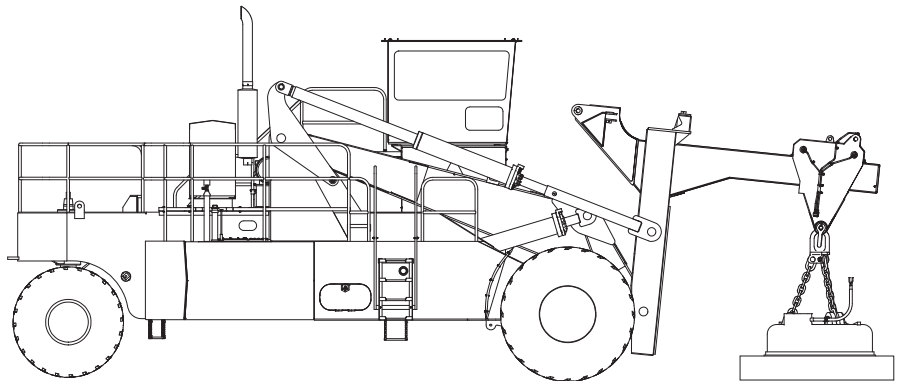
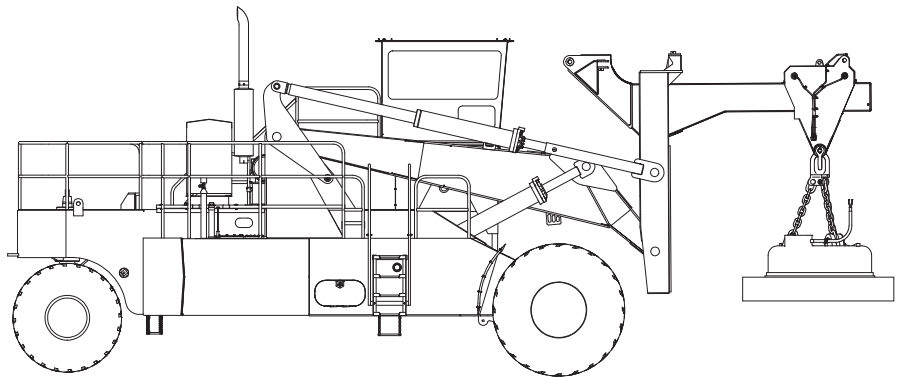

Fig. 5-5
Fig. 5-6
5. Use a combination of the hoist, tilt, swing and trolley controls on the joystick (see page 3-4) to gently lower the magnet until it is resting directly on the load to be lifted, directly above the load's center of gravity. See Fig 5-5.
10. Allow a full five (5) seconds for the magnetic field to fully generate before attempting to lift the load.
11. Use the hoist and tilt controls on the joystick to lift the load to the minimum height required to clear any obstacles in the intended travel path. See Fig 5-6.